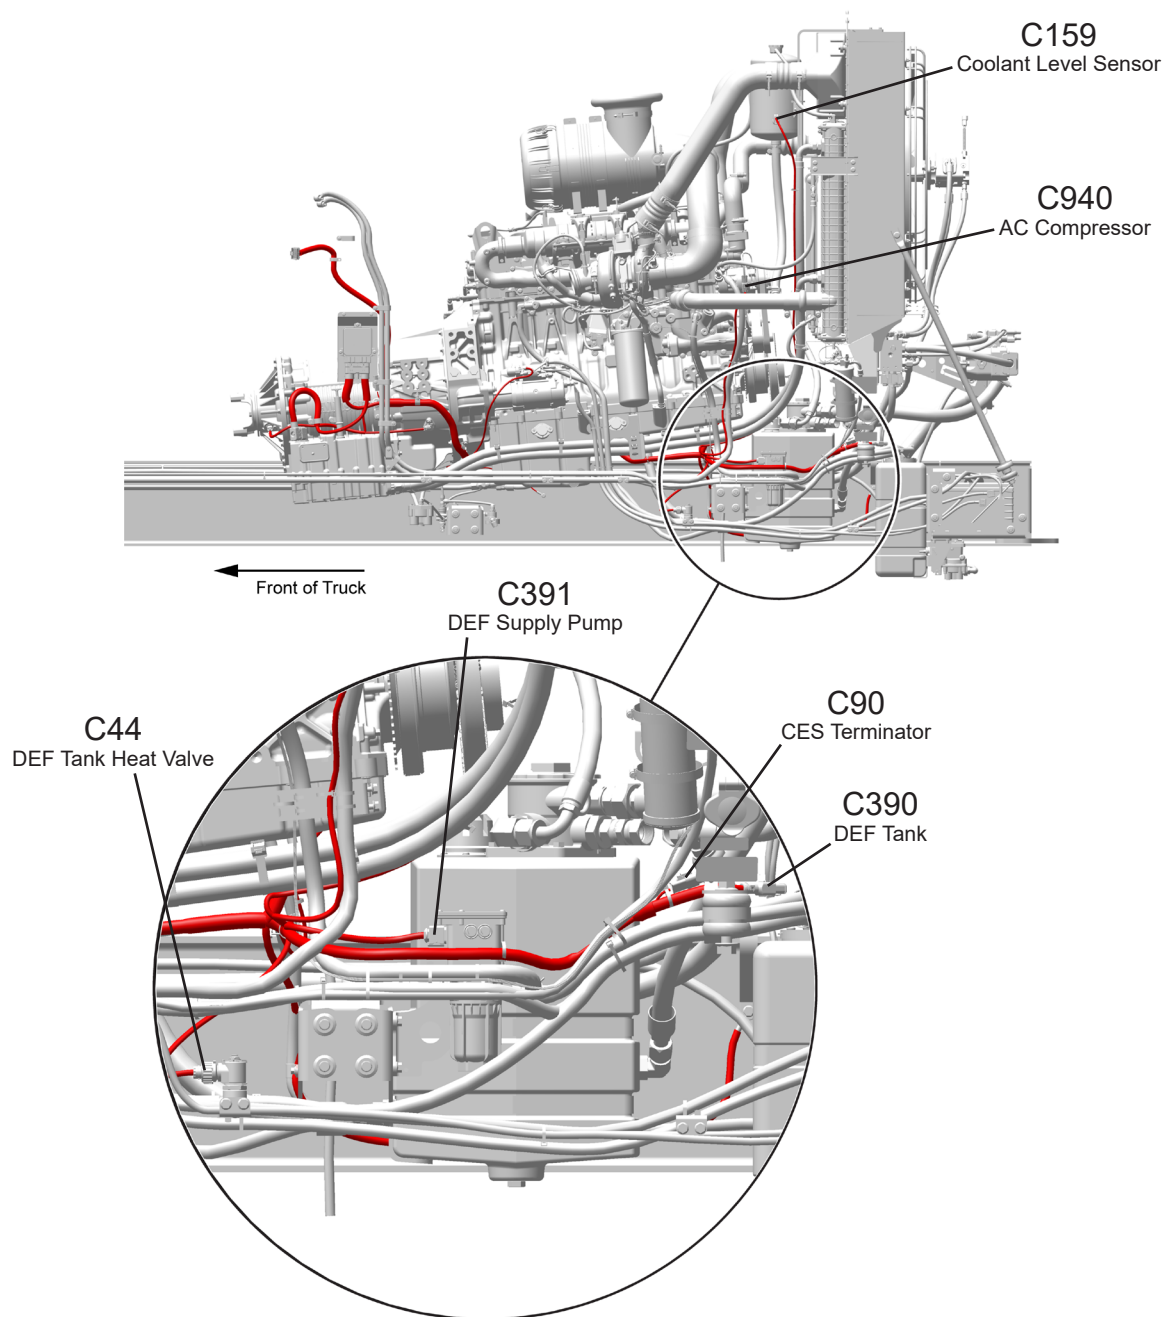

Figure 4
7. Connect the following connectors to left side of vehicle DEF system, AC compressor and coolant reservoir, see Figure 4.